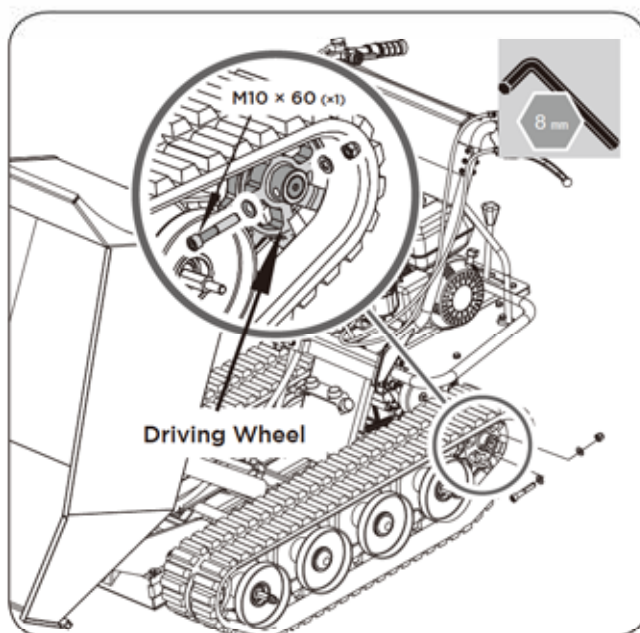

Figure 11e
6. Remove the M10×60 bolt, washers and nut from the driving wheel. (See **Figure 11e**)